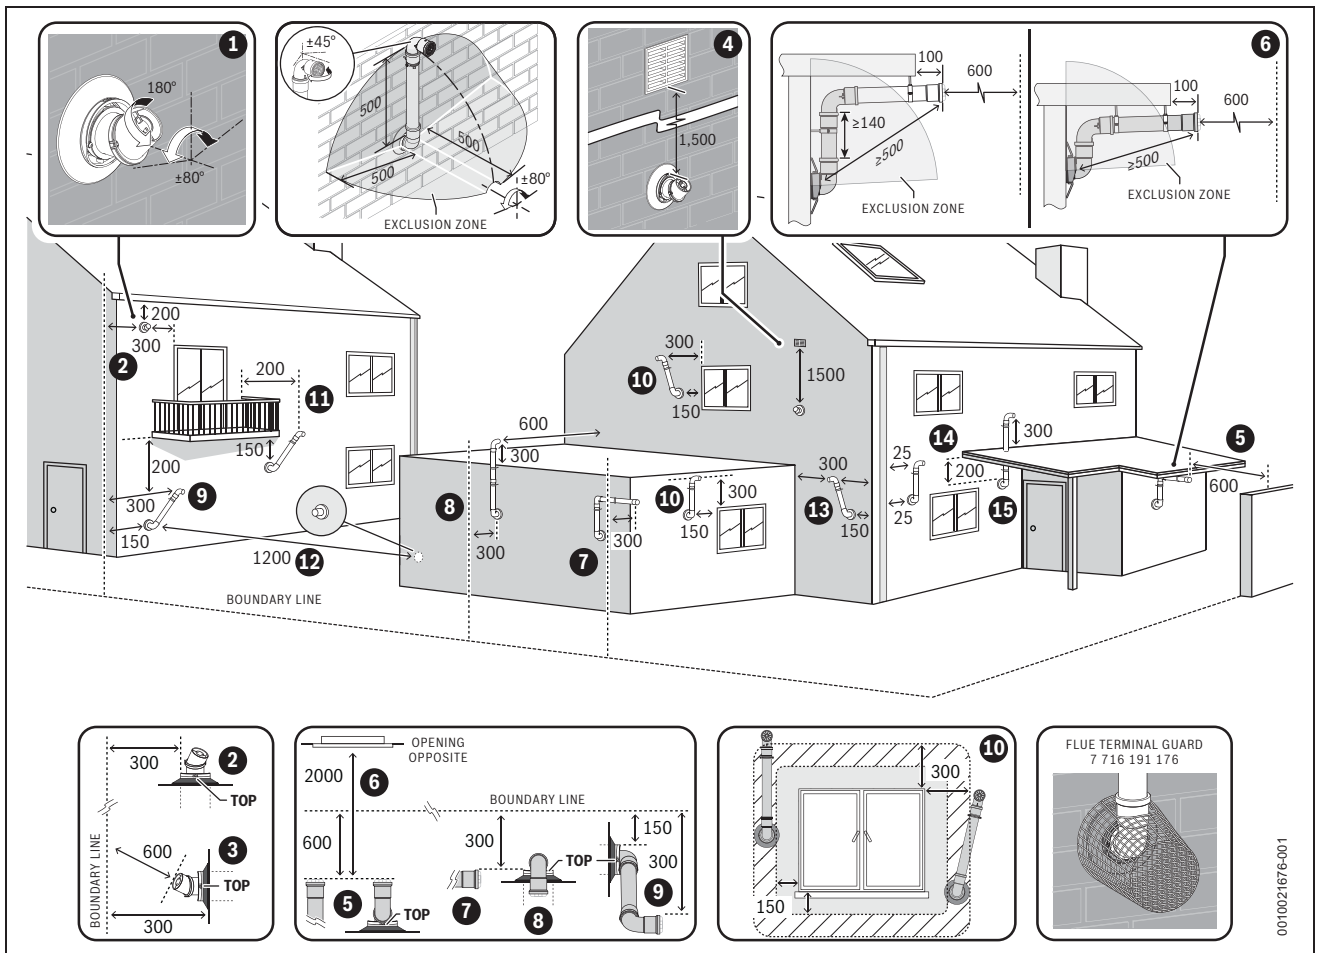

Fig. 35 Plume re-direct and plume management terminal positions
- ▶ Refer to “Horizontal flue terminal positions” for all concentric flue terminal positions unless the flue position is specified in figure 35 “Plume re-direct and plume management terminal positions”.
### Key to figure 35